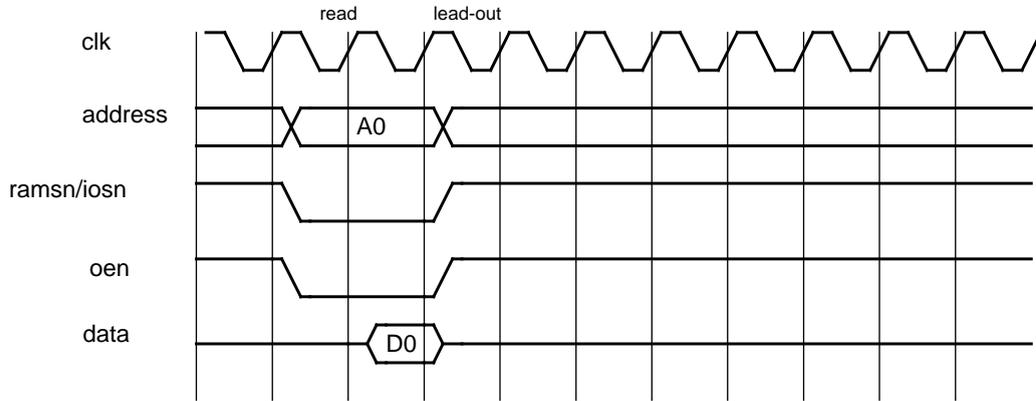
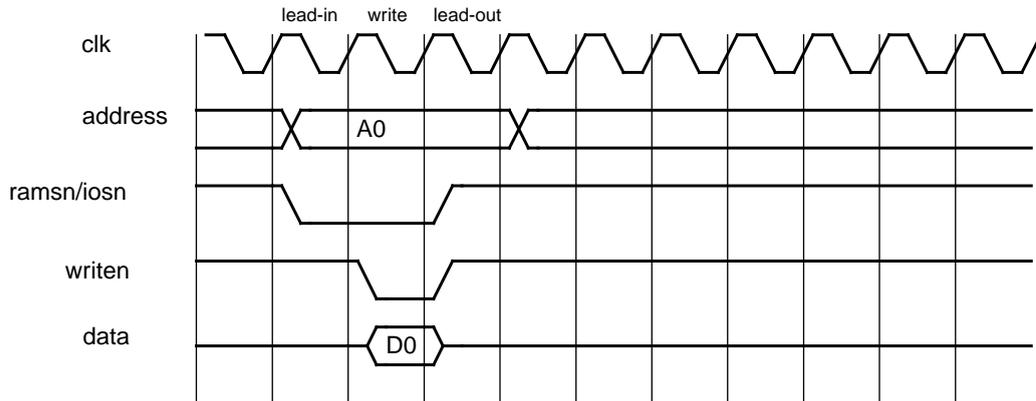

Figure 252. 32-bit PROM/IO read cycle
Figure 253. 32-bit PROM/IO write cycle
For the PROM and I/O operations, a number of waitstates can be inserted to increase the read and write cycle. The number of waitstates can be configured separately for the I/O and PROM address ranges, through a programmable register mapped into the APB address space. After a reset the waitstates for PROM area is set to its maximum (15). Figure 252 and figure 253 show timing diagrams for the PROM read and write accesses.
Read accesses to 32-bit PROM and I/O has the same timing, see figure 252
The write access for 32-bit PROM and I/O can be seen in figure 253